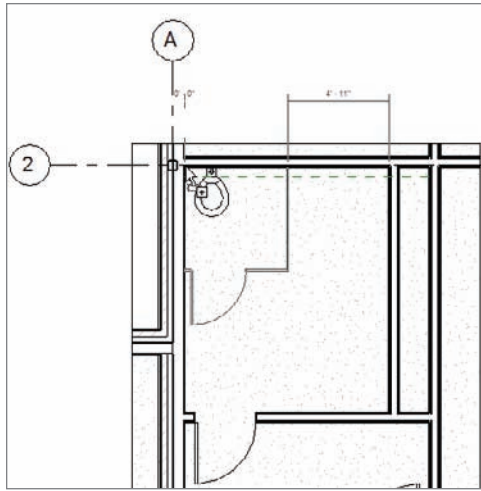

FIGURE 9.40 Placing the accessible stall
5. Pick the corner of the bathroom, as shown in Figure 9.40.
TIP If you are having difficulties placing the stall directly in the corner, place it at any location along the north wall, and then move it to the corner so it looks like Figure 9.40.